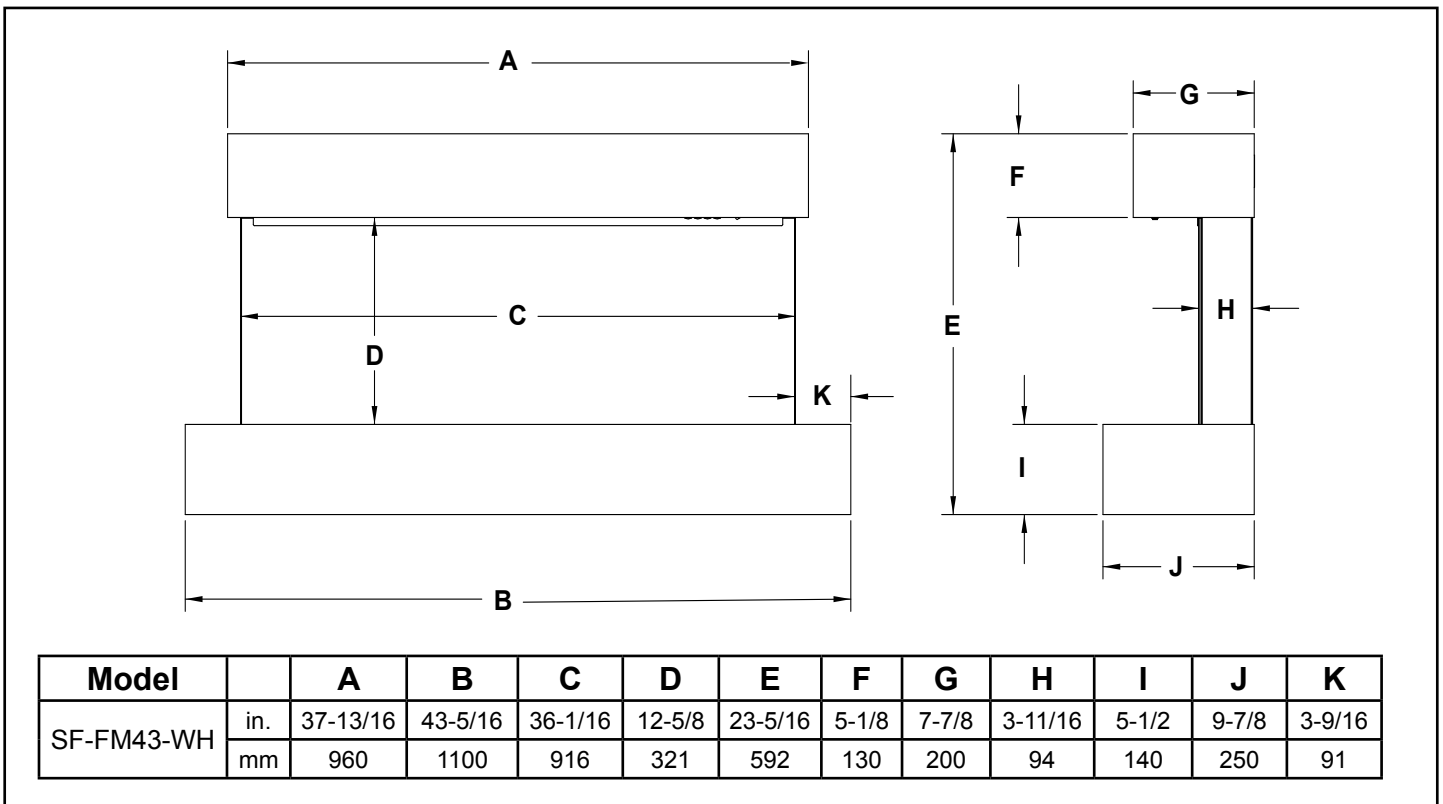
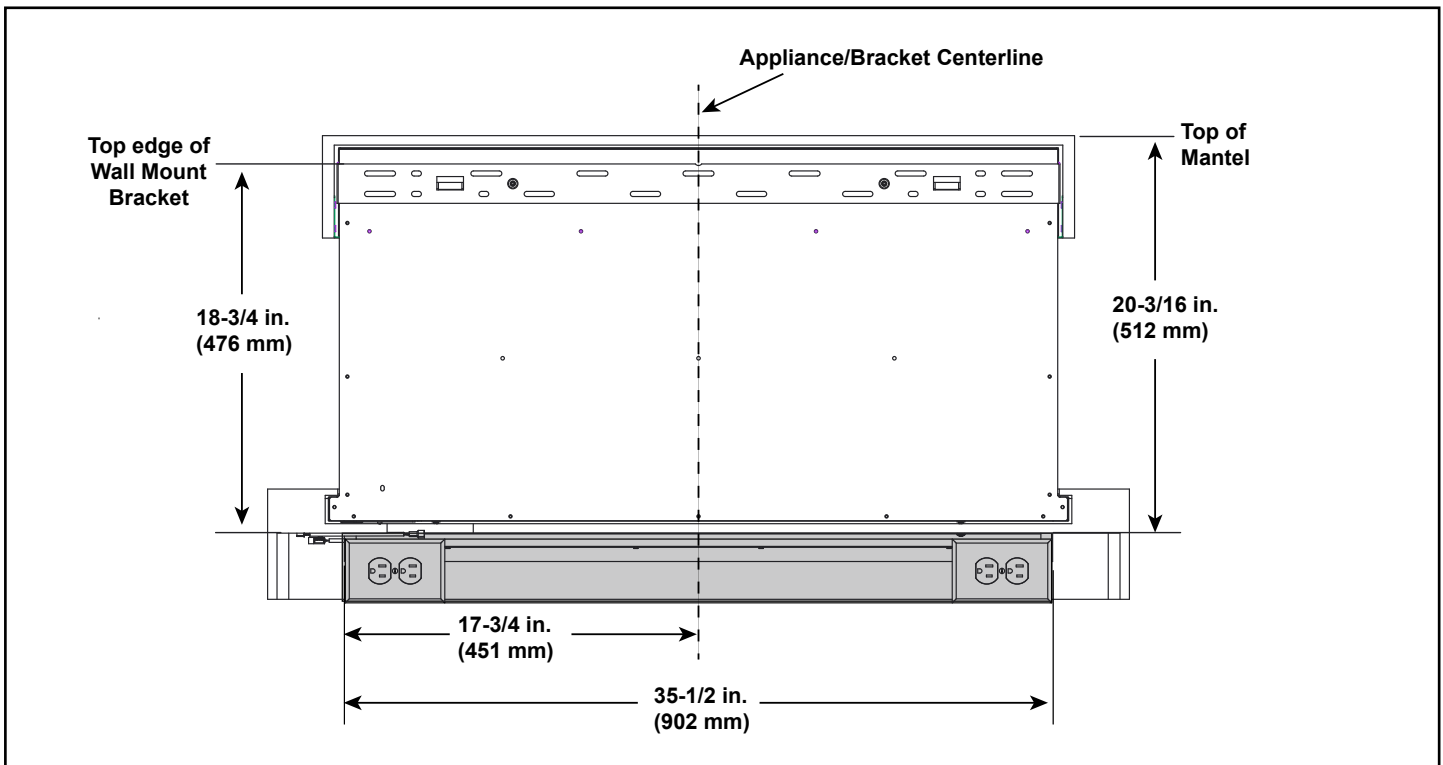

Figure 3.1 Appliance Dimensions - SF-FM43-WH
Figure 4.1 Discrete Locating of Outlet Receptacle
When locating the wall mount bracket be aware of the final position and dimensions of the appliance, mantel and electrical receptacle. See Figures 3.1 and 3.2 for mantel dimension and Figure 4.1 for dimension in relations to the wall mount bracket.
An electrical receptacle may be discretely located under the bottom mantel section. Refer to Figure 4.1. When planning the location of your appliance, special care is required to ensure the wall mount bracket is located a sufficient distance above the electrical receptacle. Refer to Figure 4.1 when planning placement of the appliance, electrical receptacle and wall mount bracket.
- Locate the mounting bracket on the wall (orient the bracket with the hooks pointing upwards) in the desired location of the appliance. Refer to figure 4.1 when planning the location of the wall mount bracket in relation to the electrical receptacle. Level the bracket, then mark its location on the wall, including a marking for each of the fastener holes in the bracket.
- For each of the marked mounting point locations, determine which points align with a structural framing member. A minimum of two (2) locations must be secured into a framing member.